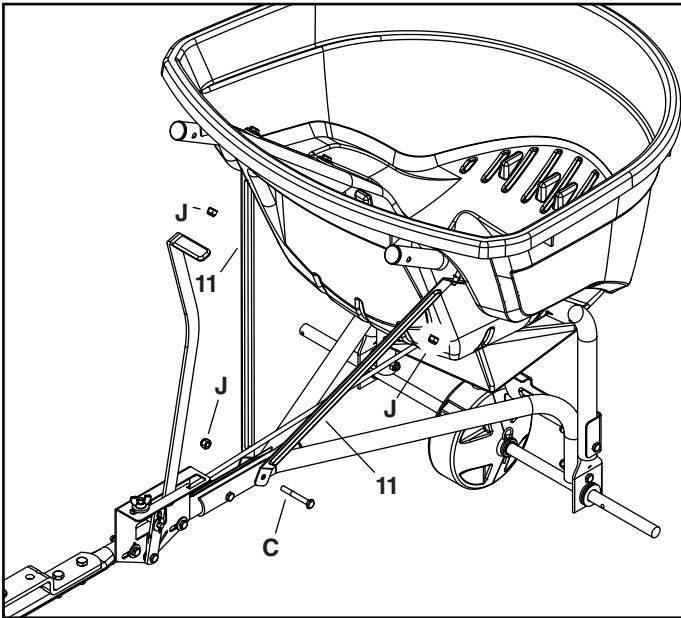

FIGURE 13
STEP 13: (SEE FIGURE 13)
- Fasten the hopper braces (11) to the hopper support tubes using the nylock nuts (J) that were assembled earlier. **Do not tighten completely.**
- Fasten the loose ends of the hopper braces to the hitch tube using a 1/4" x 2" hex bolt (C) and a 1/4" nylock nut (J). **Do not tighten completely.**